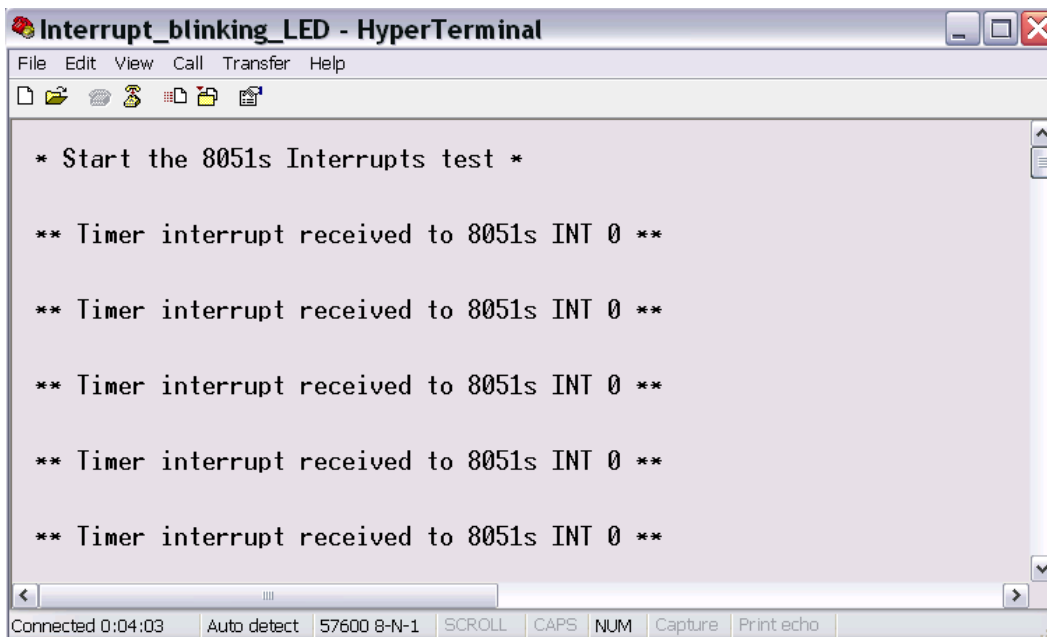

Figure 52 Application Running
6. You can see the LED glowing at the specified time interval on the Fusion Advanced Development Kit. The HyperTerminal messages are displayed as shown in Figure 52.